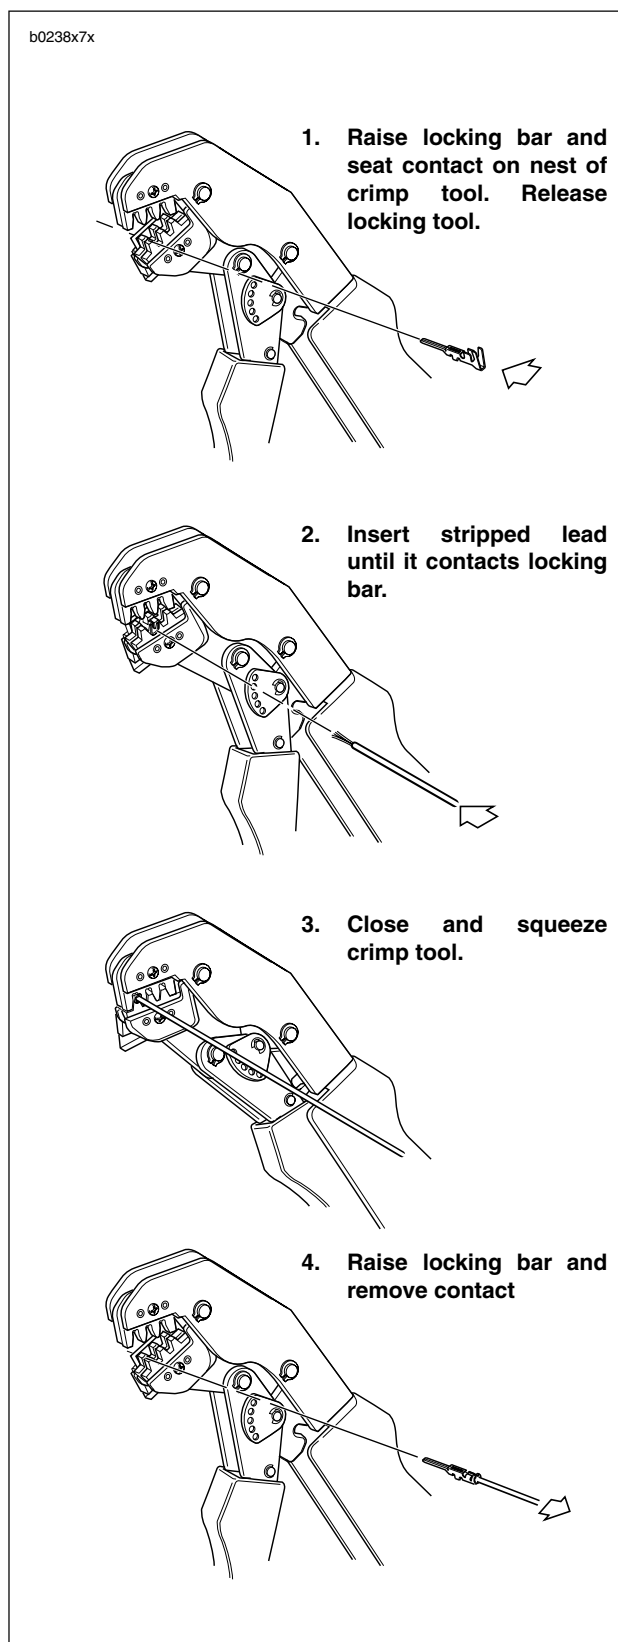

Figure 7-82. Amp Multilock Crimping Procedure
1. See Figure 7-82. Squeeze the handles to cycle the AMP TERMINAL CRIMP TOOL (Part No. HD-41609) to the fully open position.